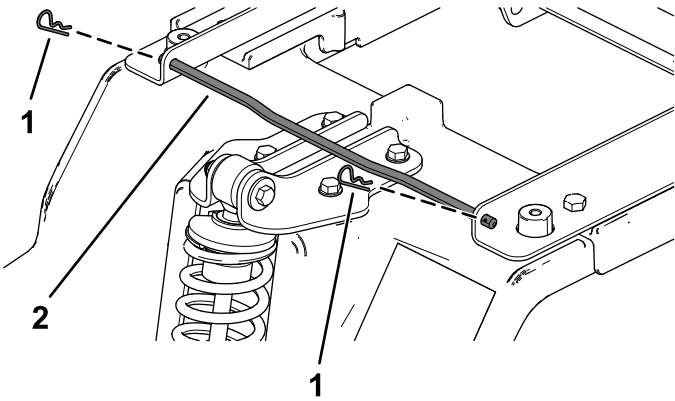

Figure 5
1. Remove the 2 hairpin cottes from the seat-pivot rod, and remove the seat-pivot rod from the platform (Figure 5).